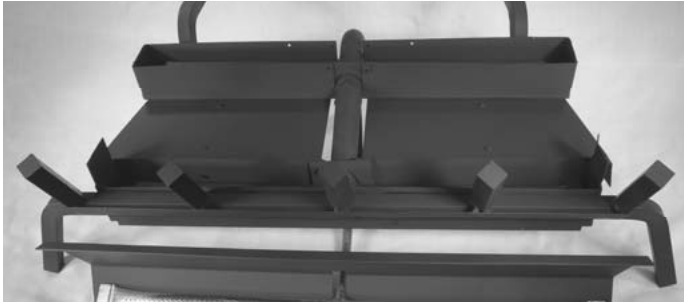

Figure 10
2. Insert the bottom lip of the ember burner pan under the ember burner. See Figure 10.